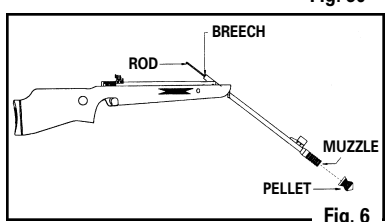

Fig. 6
- Break the barrel open slightly (without pulling the barrel all the way down to the point that it cocks the action) and look down the breech to see if the air rifle is jammed (Fig. 6).